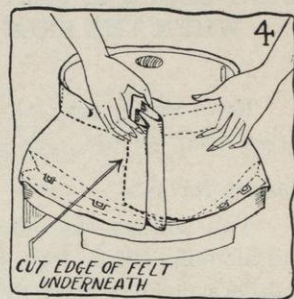

FIG. 4.
- (3) To stretch felt or straw at the edge, read and follow Section 2 c of Job 3 (page 13).
- (4) Slip the end you are working with under the pleats as desired (see Figure 4). You may loosen pleats already tacked.
- (5) Finish steaming and pressing.